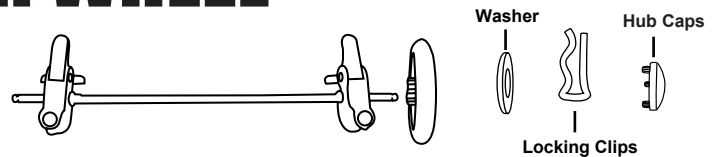
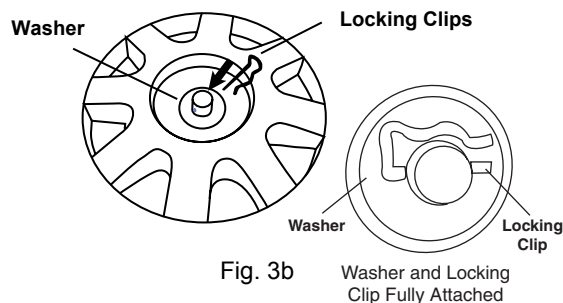

Fig. 3a
Fig. 3b
3. Assemble the rear axle as follows. Insert the axle through each wheel, with axle going through the brake cluster on the wheel first. Then slide washer onto axle. (Fig 3a) Secure the wheel with the locking clip by pushing the straight side of pin through axle hole. (Fig 3b). Snap wheel cap into place (Fig 3c). Pull on each wheel to ensure that each is securely locked onto the rear axle.